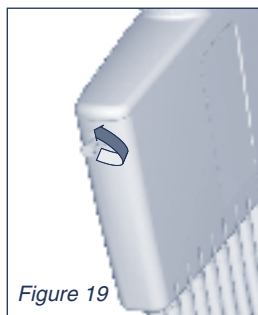

Figure 19
- 1) Remove the two screws, which are located at either side of the head, using a miniature screwdriver (figure 19).